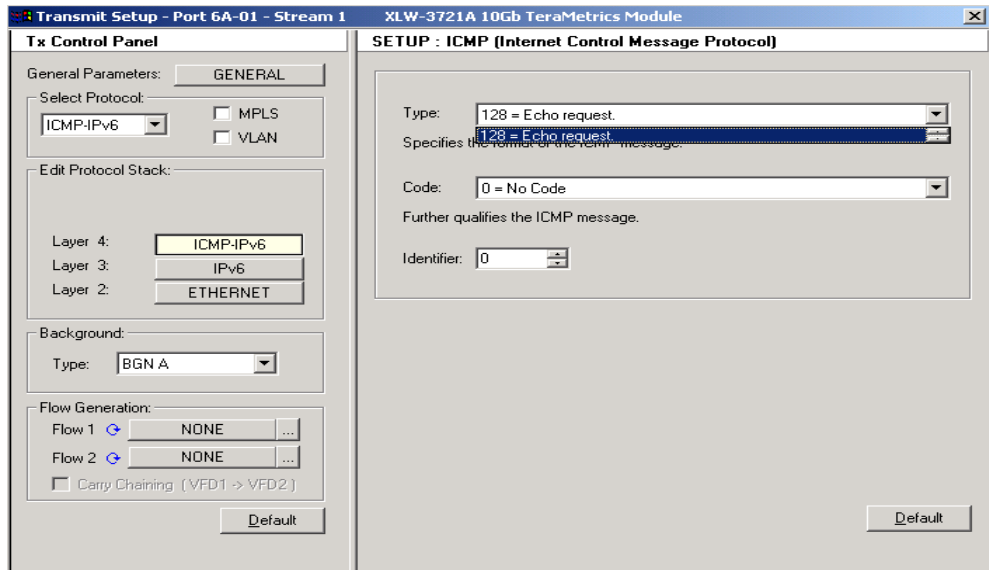

Figure 8-59. ICMP Template
- 5 Select the down arrow in the *Type* field to see a scroll bar. This scroll bar displays an additional five formats for the ICMP message. Any one of these message formats can be selected; however, each format has a unique set of codes that can be used with it. (See *Figure 8-59 on page 411*.)